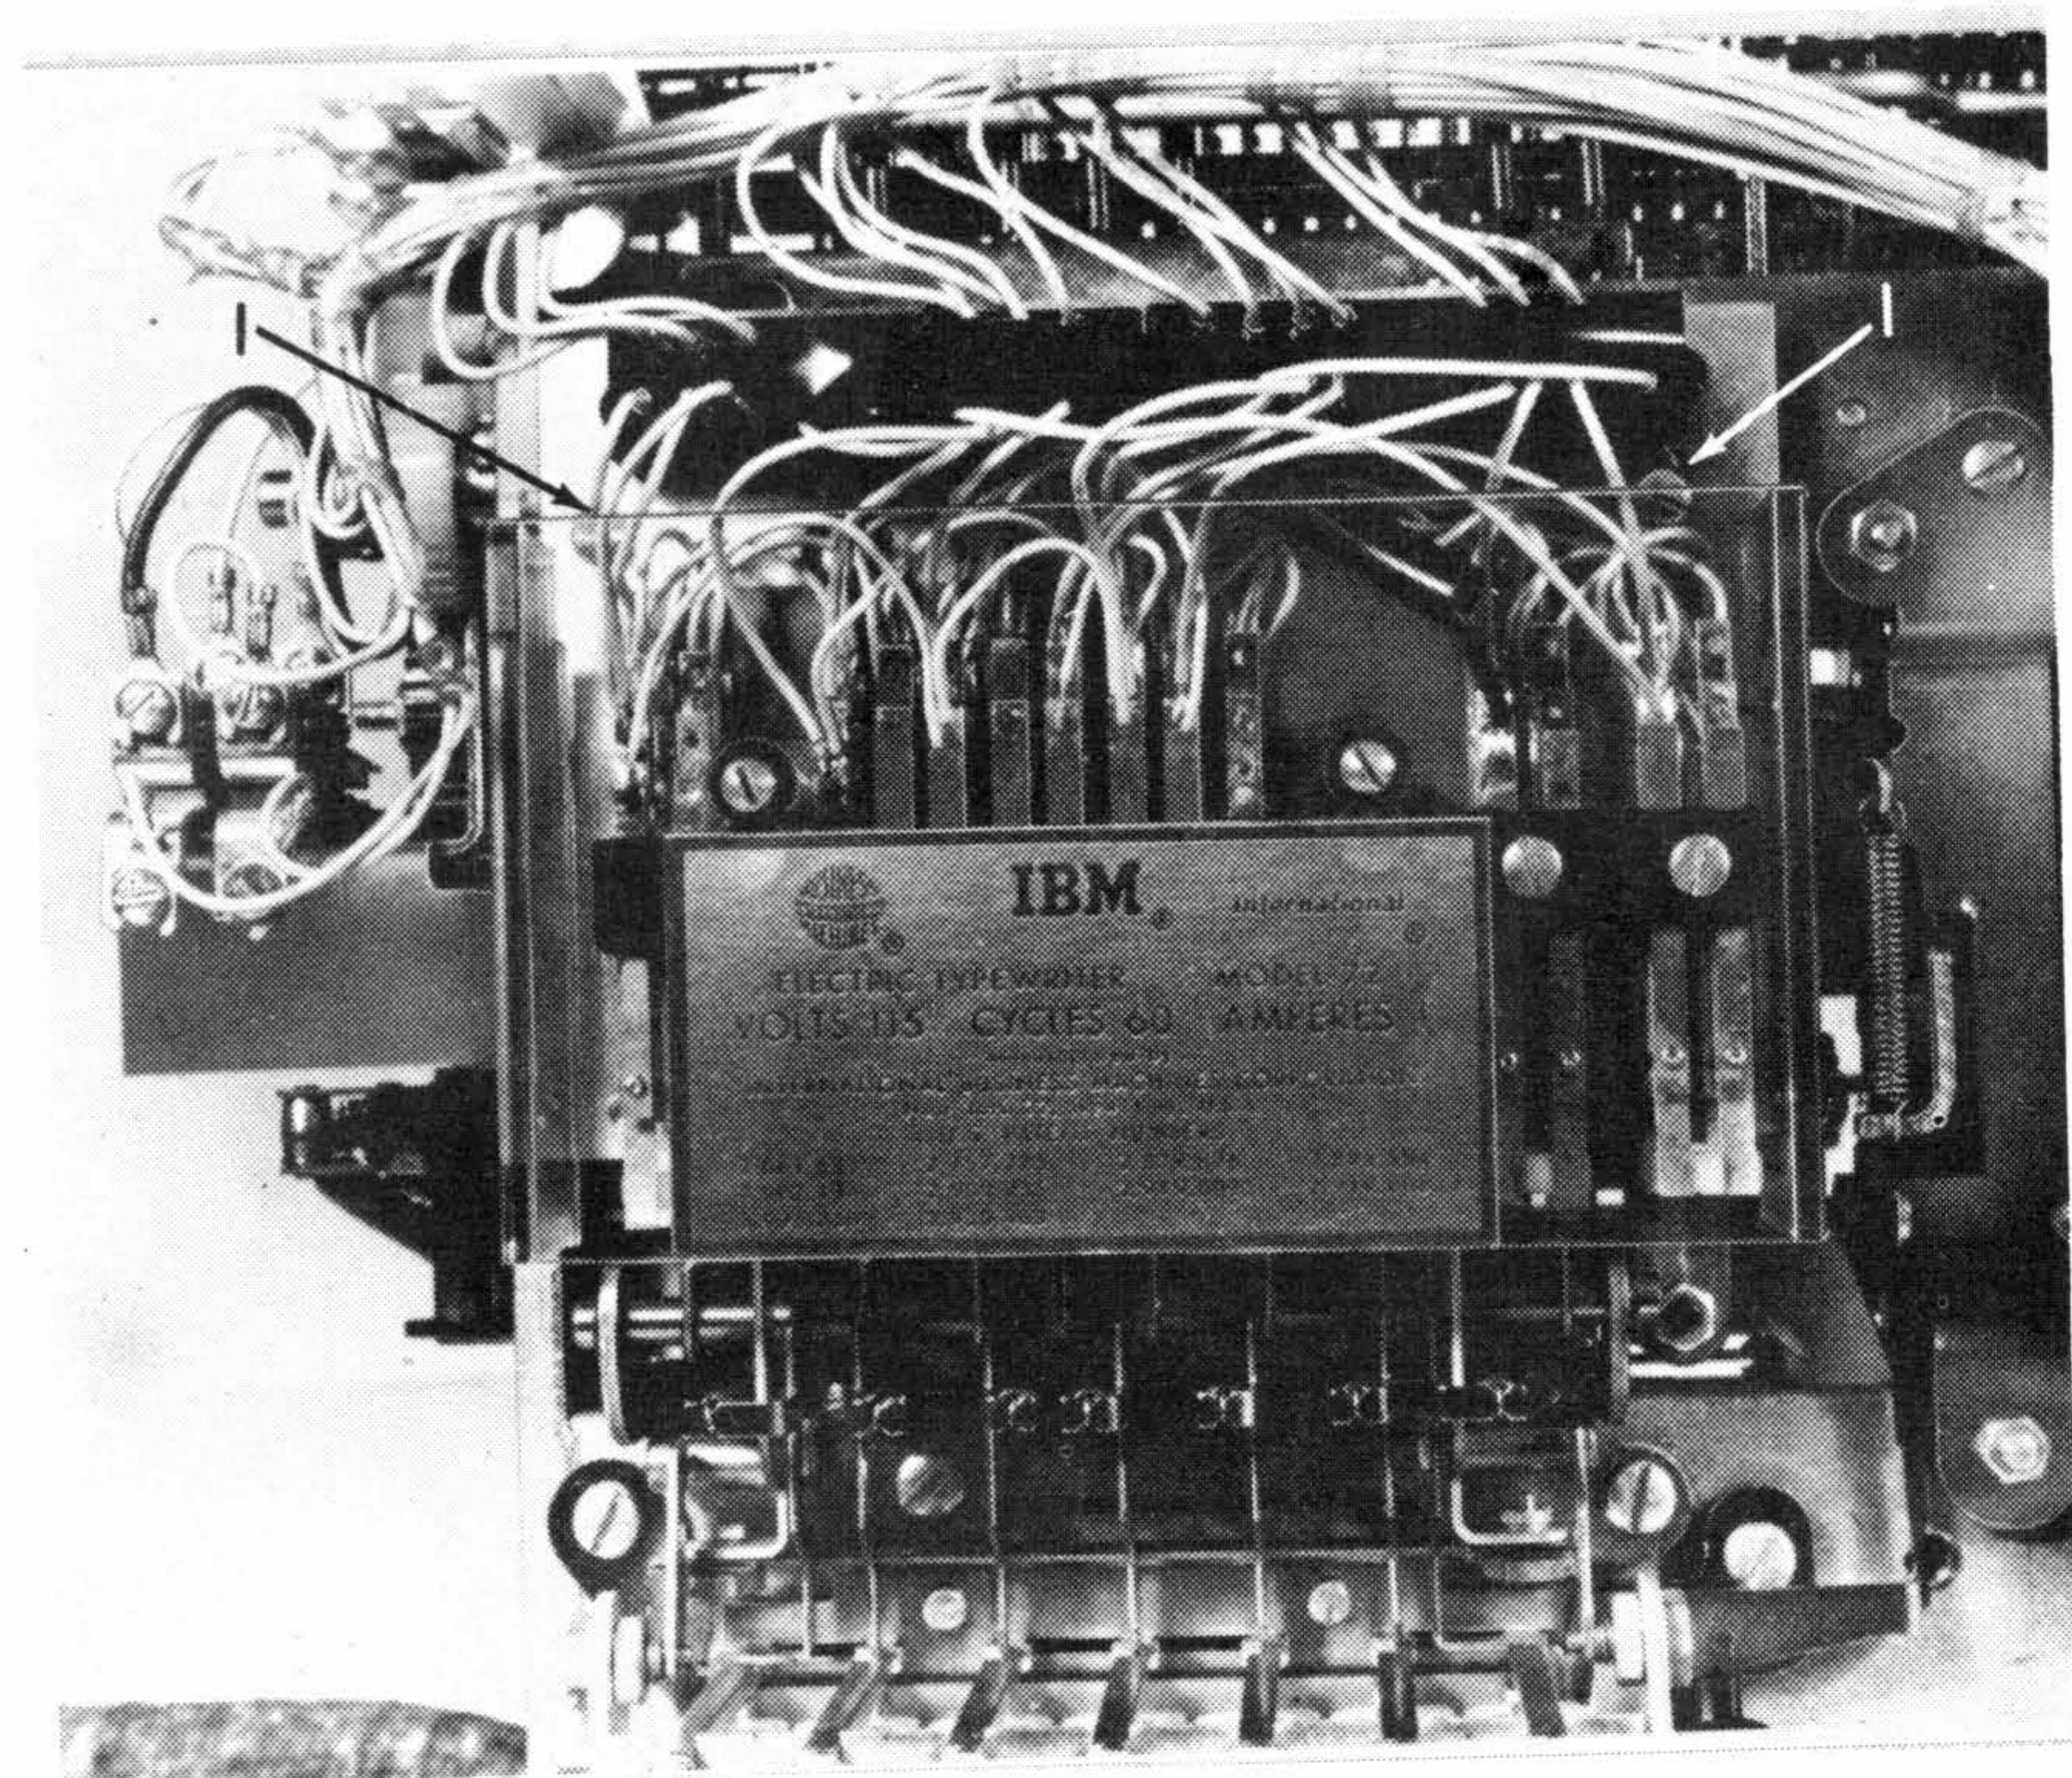

Figure 7. Belt Replacement
6. Remove the two screws (#1, Figure 7) that hold the plate to the frame. Remove the contact assembly, holding it to the front with a rubber band.